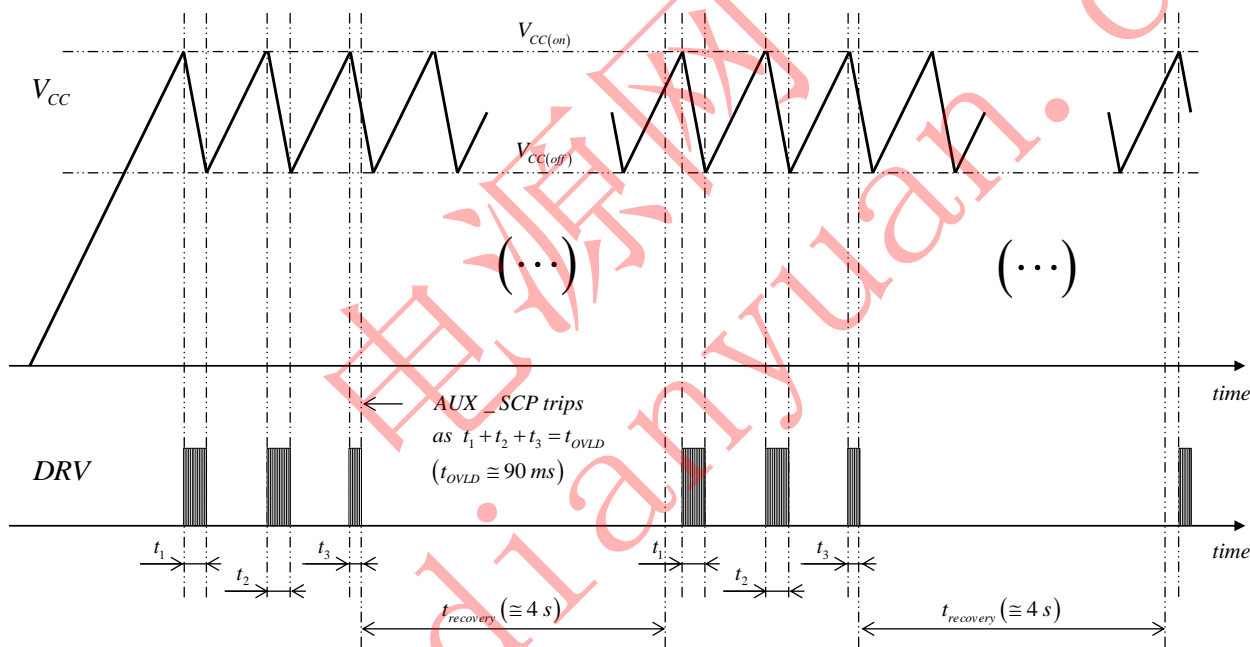

Figure 5 – Start-up sequence in a load short-circuit situation
- If the load is shorted, the circuit will operate in hiccup mode with V_{CC} oscillating between $V_{CC(off)}$ and $V_{CC(on)}$ until the AUX_SCP protection forces the 4-s auto-recovery delay to reduce the operation duty-ratio (AUX_SCP trips if the ZCD pin voltage does not exceed 1 V within a 90-ms active period of time thus indicating a short to ground of the ZCD pin or an excessive load preventing the output voltage from rising). Figure 5 illustrates a start-up sequence with the output shorted to ground.